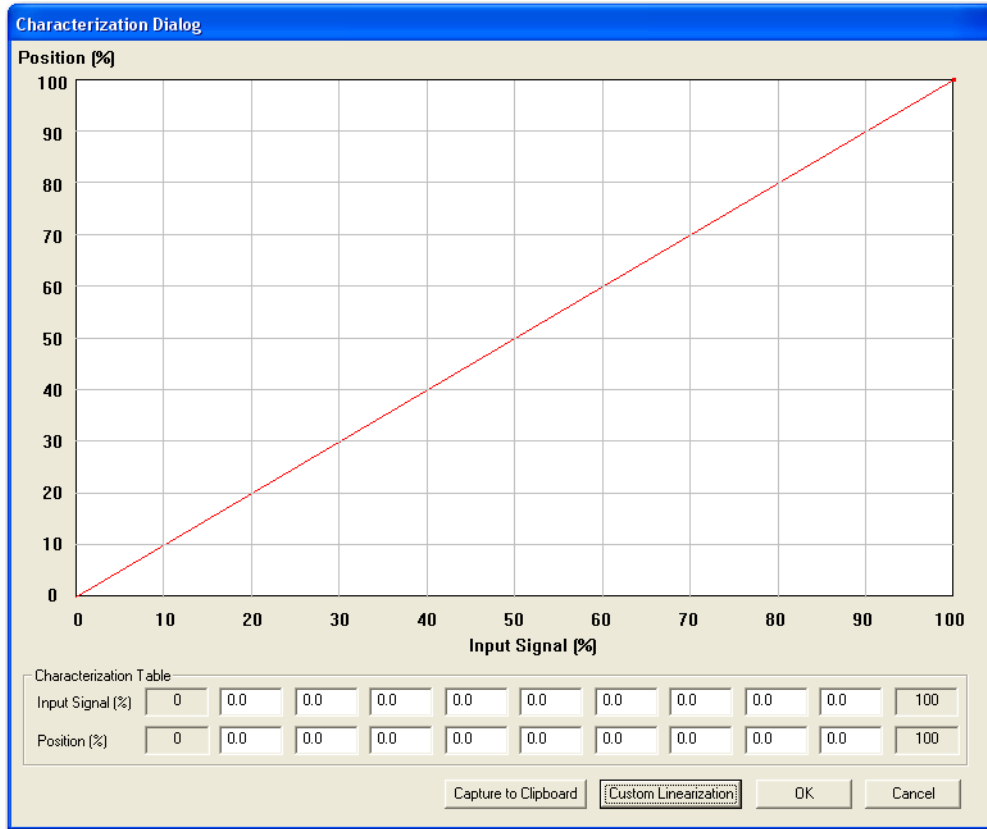

Figure 28 Custom Characterization
When mounted on a reciprocating valve, a small non-linearity in the reported valve position versus actual valve position may result from the linkage configuration. This non-linearity can be corrected using a custom characterization that matches the specific linkage used. Custom characterization must be the selected configuration option to use the generated curve. Custom characterization is accomplished using the Figure 28 dialog.
1. Click **Custom** and Figure 28 dialog appears.